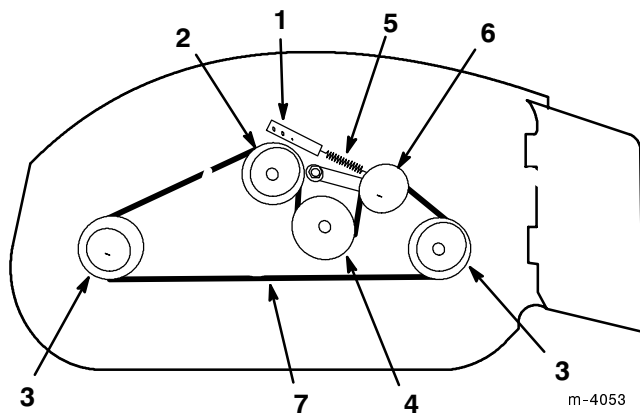

Figure 23
- Grease the fittings on the three spindle bearings and the idler arm (Fig. 23).
- Remove nut securing spring anchor to housing and lift spring anchor from bolt (Fig. 23).
- Remove the worn mower belt (Fig. 23).
- Install new mower belt around the three spindle pulleys, the idler pulley, and the gearbox pulley (Fig. 23).
- Pull on the spring anchor and connect to anchor bolt (Fig. 23).